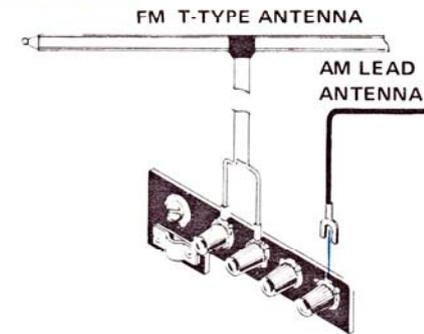

Fig. 5
- If the receiver is to be located in a wooden building and stations are nearby, use the T-type antenna which comes with the SX-525. As shown in Fig. 5, connect the feeder terminals of the antenna to the FM antenna terminals. Stretch out the antenna proper and secure it to the ceiling or a wall in such a manner that pickup is optimum, as determined by listening to the station to be received. Refer to "FM Reception" on page 8.